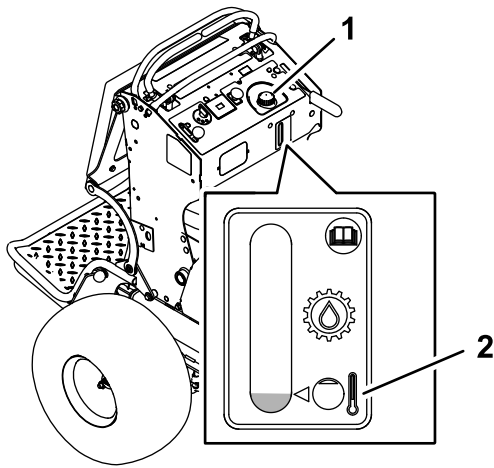

Figure 60
3. Clean the area around the cap and the filler neck of the hydraulic tank (Figure 60).
4. Remove the cap from the filler neck (Figure 60).